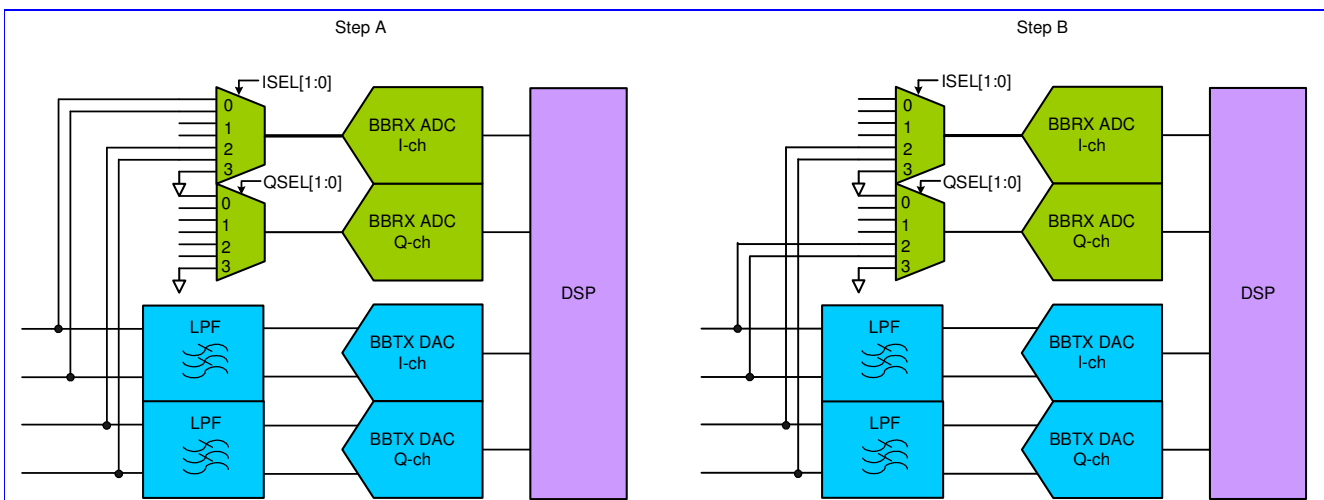

Figure 112 Downlink RX and Up-link TX Gain Mismatch Measurement (A) I/Q TX connect to I/Q RX (B) I/Q TX connect to Q/I RX
- A. The uplink I-channel output are connected to the downlink I-channel input, and the uplink Q-channel output are connected to the downlink Q-channel input. This can be achieved by setting **ISEL [1:0] = '00'** and **QSEL [1:0] = '00'** (shown in **Figure 112 (A)**).
- B. The uplink I-channel output are then connected to the downlink Q-channel input, and the uplink Q-channel output are connected to the downlink I-channel input. This can be achieved by setting **ISEL [1:0] = '10'** and **QSEL [1:0] = '10'** (shown in **Figure 112 (B)**).